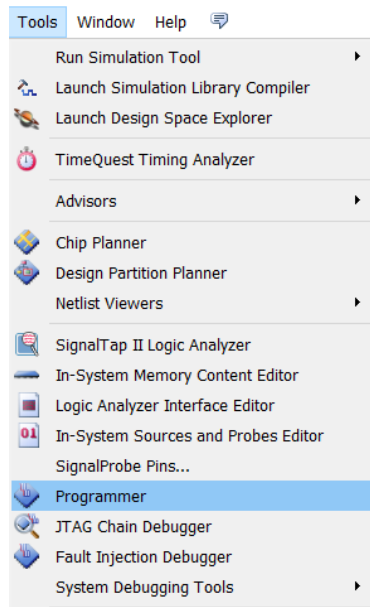

Figure 28. Steps for downloading to FPGA
-> Programmer (see figure 28), so that the window display appears.